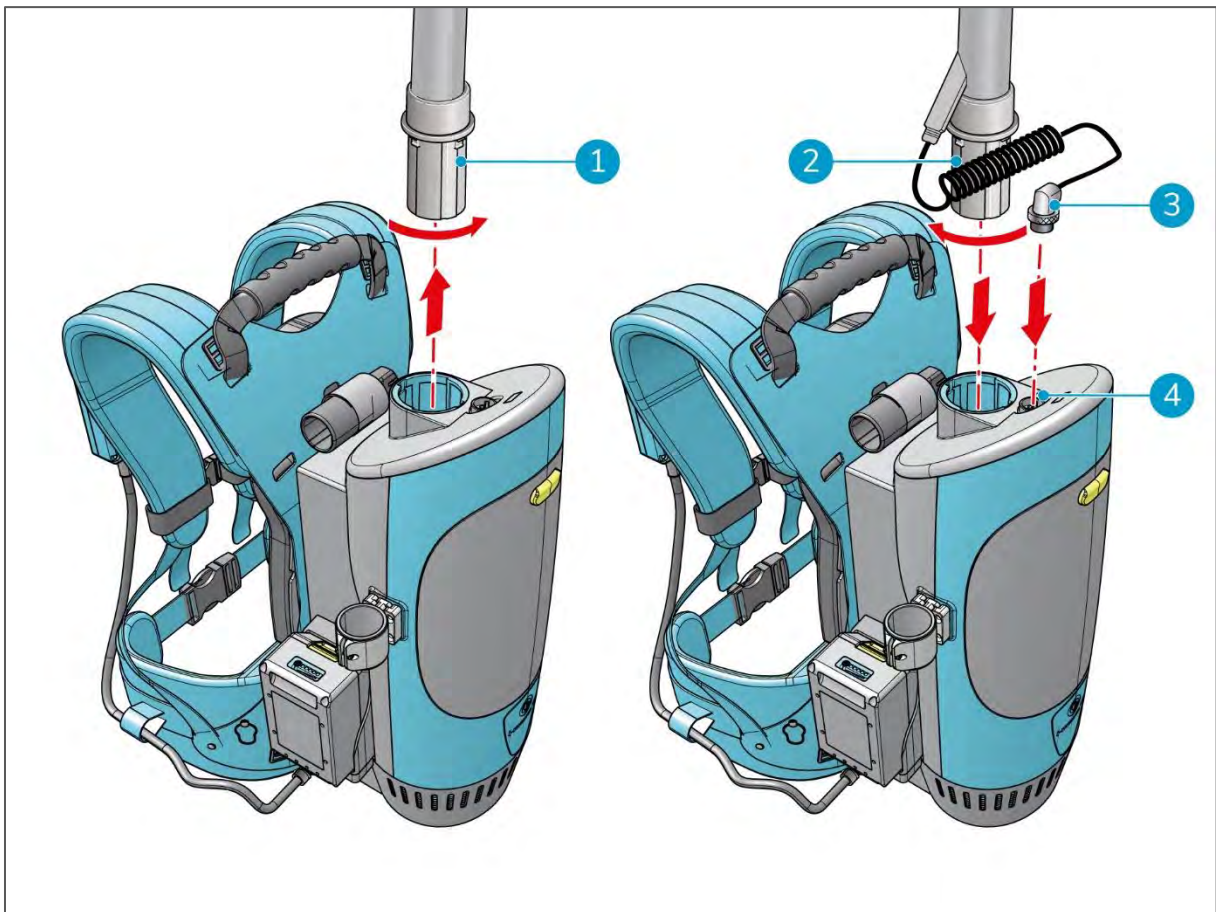

Figure 17
1. Turn the hose of the standard equipment counterclockwise (Figure 17, pos 1).
3. Insert the hose of the i-brush into the connector (Figure 17, pos 2).
5. Connect the plug from the i-brush (Figure 17, pos 3) onto the connector on the i-move 2.5B (Figure 17, pos 4).